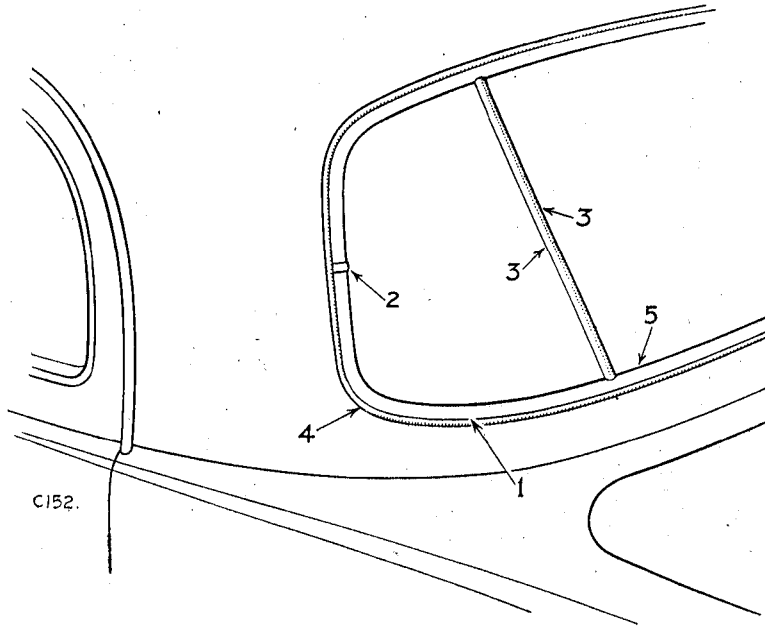

Fig. 2. Backlight from L.H. side.
- (1) All round the backlight between chrome bead and rubber seal. (See Figs. 2 and 3, Item 1.)
- (2) Underneath the chrome clips at either side of the chrome beading. (See Fig. 2, Item 2.)
- (3) Between backlight glass and vertical rubber seals. (See Fig. 2, Item 3.)
- (4) All round backlight between rubber moulding and body. (See Figs. 2 and 3, Item 4.)
- (b) Cut a deep "V" in the rubber seal between glass and chrome bead and fill in with Sealastik. (See Figs. 2 and 3, Item 5.)